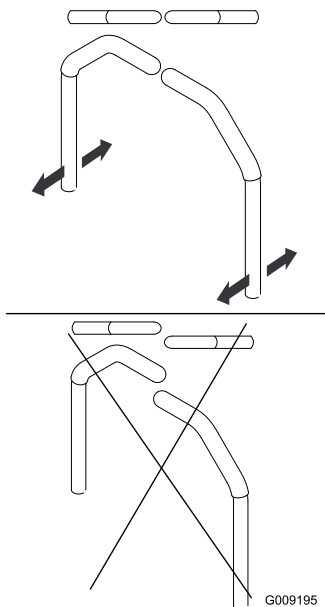

Figure 80
4. Align the levers front to rear position by bring the levers together to the neutral position and slide them until they are aligned, then tighten the bolts (Figure 80).